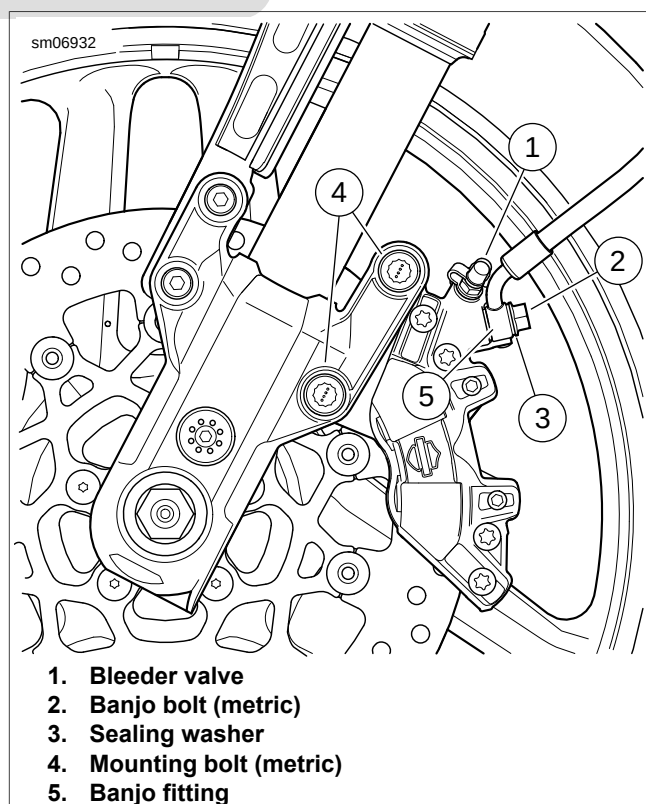

Figure 2-82. Front Caliper Assembly: XR 1200X
- See Figure 2-82. Place brake caliper over brake disc with bleeder valve (1) facing upwards. Install mounting bolts (4) and tighten to 28-38 ft-lbs (38.0-51.6 Nm).